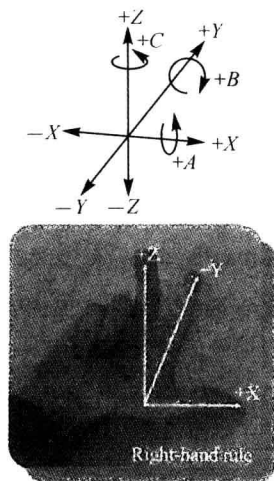

Fig. 1-1 Coordinate system
position the tool over the hole to be machined (in two axes) and machine the hole (with the third axis). Axes are named with letters. Common linear axis names are X, Y, and Z. Common rotary axis names are A, B, and C. These are related to the coordinate system. ^③ See Fig. 1-1